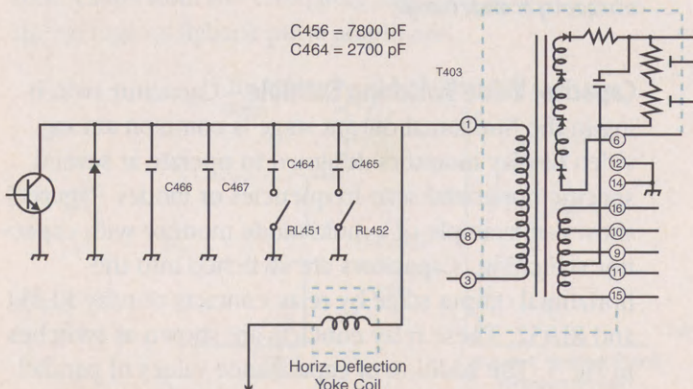

Fig. 5: Switching capacitors in parallel increase the Ct total value to reduce the flyback pulse amplitude at low frequency modes.
**Capacitor Value Switching Example** – Capacitor switching in the horizontal output stage is common among video display monitors designed to operate at several specific horizontal scan frequencies or modes. Figure 5 shows an example of a multi-mode monitor with capacitor switching. Capacitors are switched into the horizontal output stage by relay contacts of relay RL451 and RL452. These relay contacts are shown as switches in Fig. 5. The addition of capacitance values of parallel capacitors C466, C467, C464, and C465 determine the  $C_t$  value of the horizontal output stage.